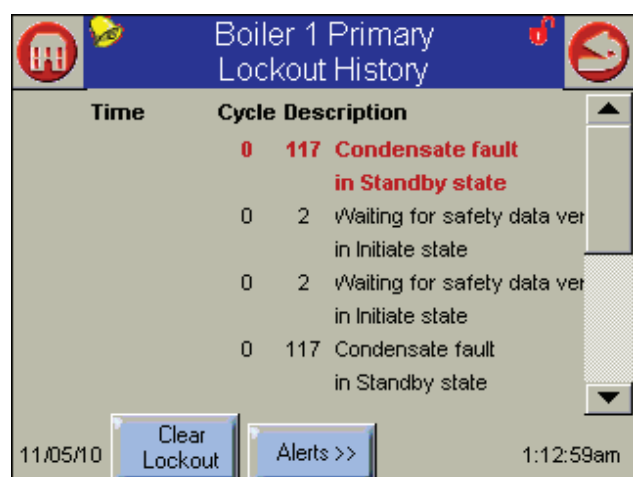

Fig. 128 – Lockout History Screen
4. To see a record of the recent lockouts and alerts, press the History button. The system will present the Lockout History screen (Fig. 128).
- From the Lockout History screen (Fig. 128), correct the cause of the problem, then press Clear Lockout to clear the lockout.
- From the Lockout History screen (Fig. 128), you can press the Alerts button to see a list of recent alerts. See Fig. 130.